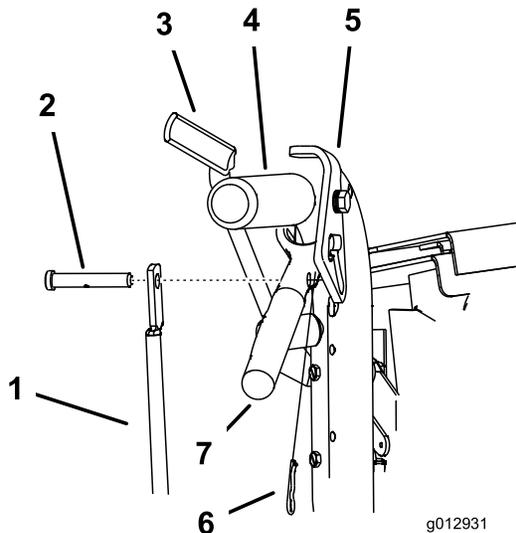

Figure 18
- Remove the hairpin cotter pins and clevis pins from the drive levers and neutral locks (Figure 18).
- Adjust the control rod length by rotating the control rod in the rod fitting (Figure 18).
- Install a hairpin cotter between the drive levers and neutral locks and into the clevis pins (Figure 18).